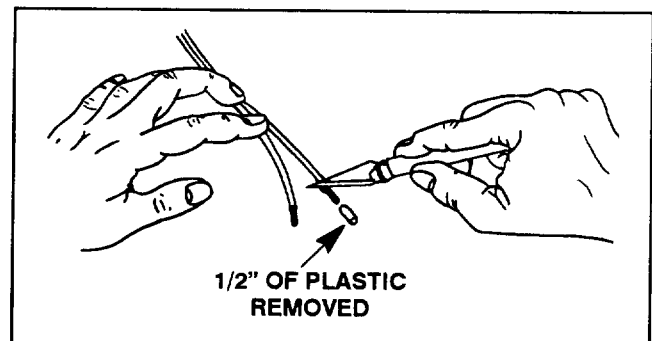

Figure 6
2. Remove 1/2" of the plastic insulation from the four wires (Fig. 6).